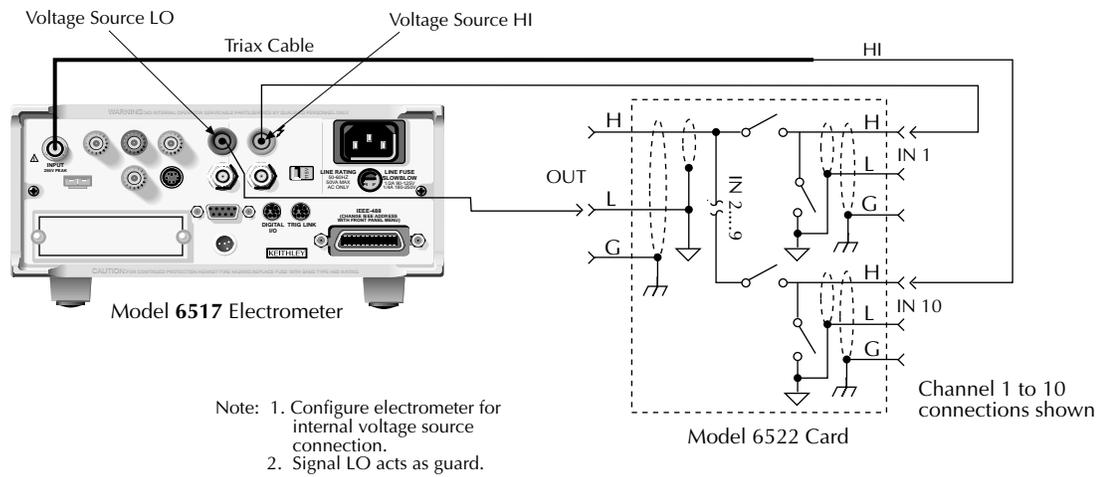

Figure 4-4
4. Connect the Model 6517 to the channels 1 and 2 HI input terminals, as shown in Figure 4-4.